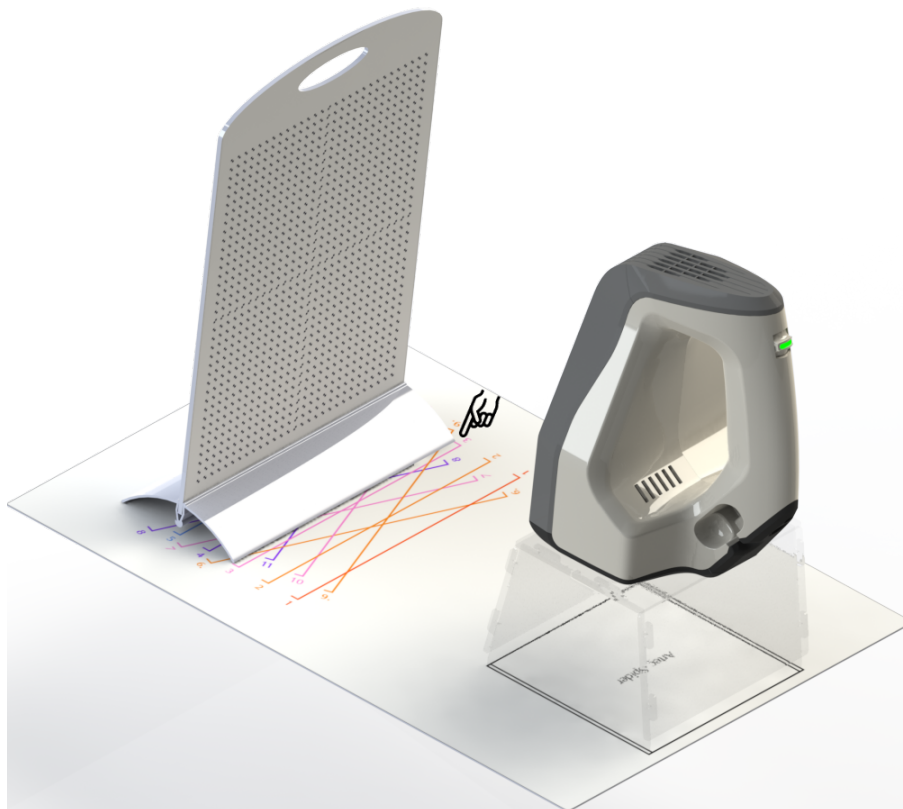

Figure 217: Calibration rig, positioning sheet and scanner stand with Artec Spider.
4. Set the calibration rig on the positioning sheet, turning its marker side towards the scanner as Figure 217 shows.